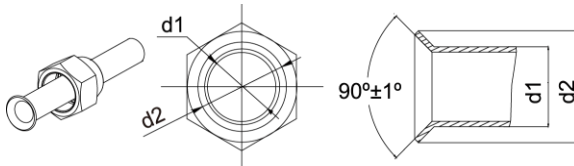

Fig. 4.8
- (1). Cut the connection pipe with the pipe cutter and remove the burrs.
- (2). Hold the pipe downward to prevent cuttings from entering the pipe.
- (3). Remove the flare nuts at the stop valve of the outdoor unit and inside the accessory bag of the indoor unit, then insert them to the connection pipe, after that, flare the connection pipe with a flaring tool.
- (4). Check if the flare part is spread evenly and there are no cracks (see Fig. 4.8).